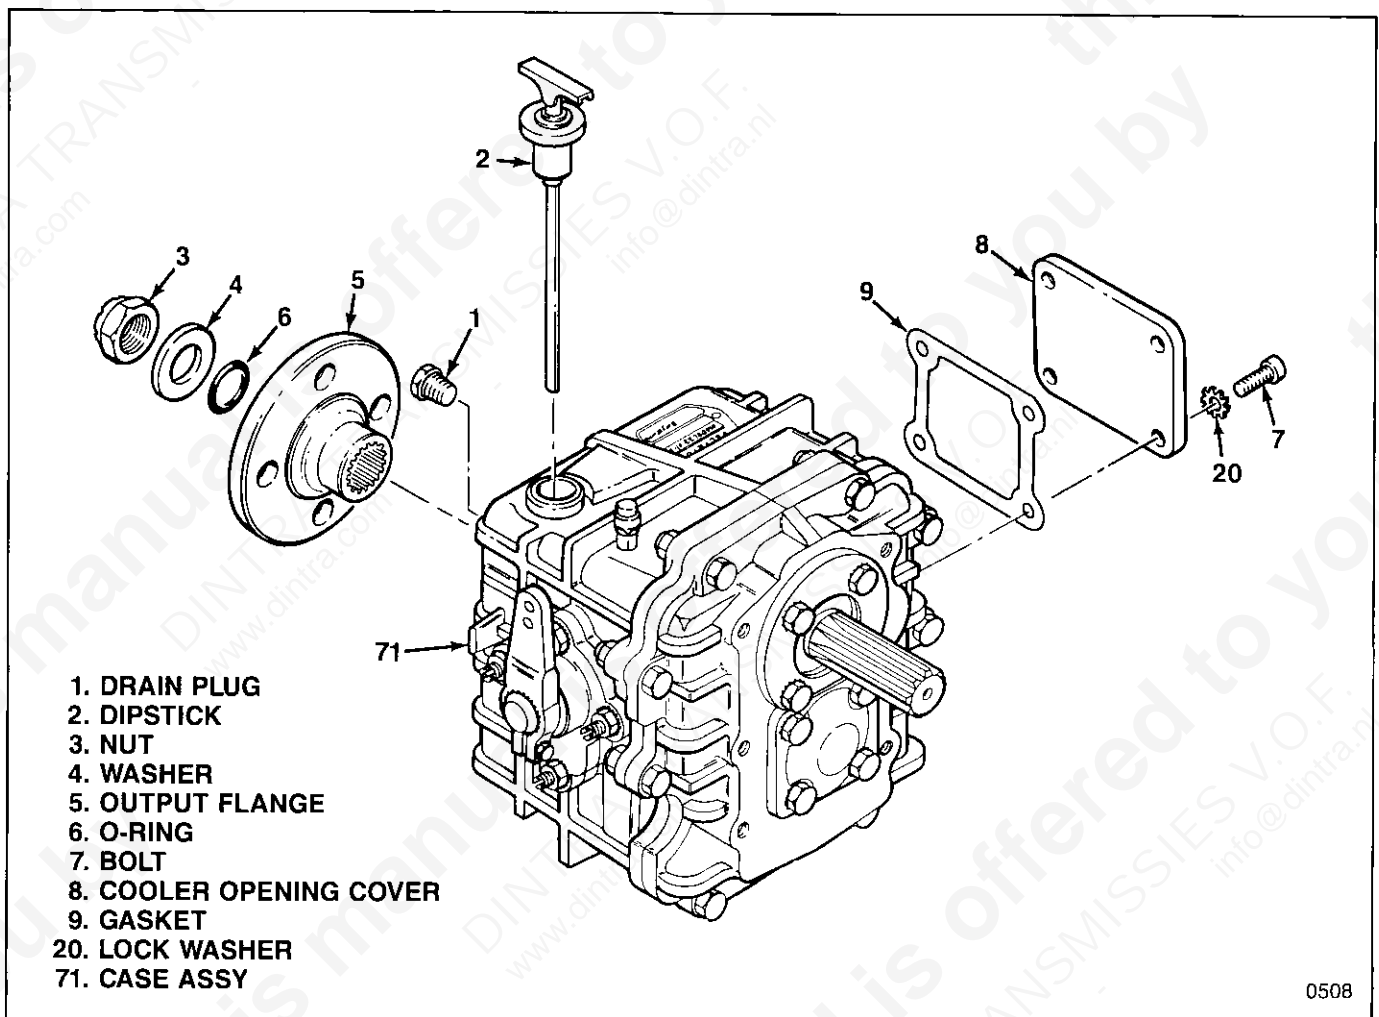
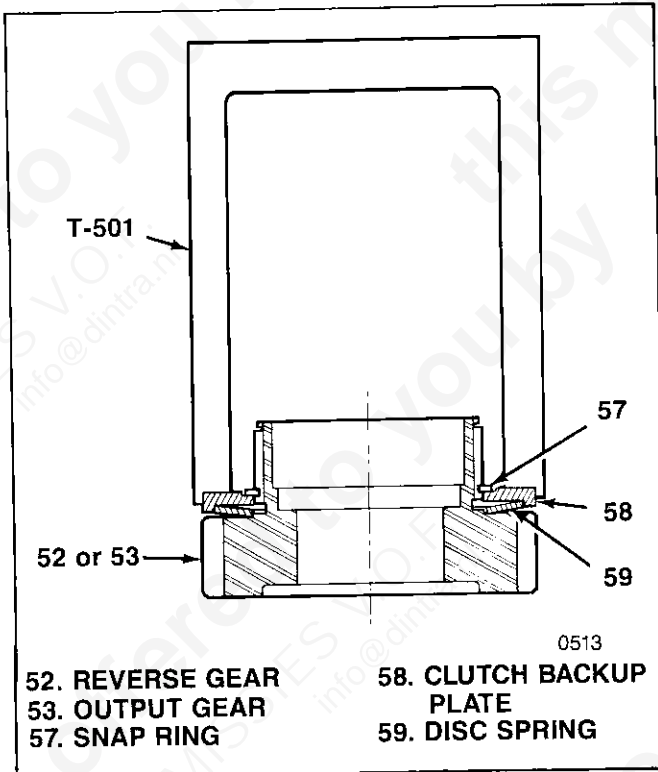

Figure 3-1. External Components
Figure 3-6. Removing Gear Snap Ring
3-7. REMOVAL OF EXTERNAL COMPONENTS. Shift the transmission into neutral, then begin disassembly as follows (see figure 3-1):
1. Temporarily re-install output flange (5, figure 3-1) on output shaft (67) to hold shaft with coupling wrench T-504. Loosen lock nut (45) using socket wrench and socket T-505.
2. Remove lock nut (45), lock washer (46), bearing spacer (47) and bearing cup (48).
3. From each end of output shaft (67), remove the following:
a. One bearing cone (49). Use suitable puller behind reverse gear (52) and output gear (53) to unseat bearing cones from output shaft (67).
b. One thrust washer (50) and shims (51).
c. Reverse gear (52) and output gear (53) with attached parts (54 through 59). From each gear remove the following:
(1) One snap ring (54).
(2) Alternately, five clutch plates (55) and four clutch plates (56).
(3) One snap ring (57). Use compression tool T-501 on clutch backup plate (58) in arbor press to compress disc spring (59) when removing snap ring (57) from reverse gear (52) or output gear (53) (see figure 3-6).
(4) One clutch backup plate (58).
(5) One disc spring (59).
d. Continuing with output shaft group, from each end remove one spring (60).
e. One needle bearing (61). Pull inner bearing rings (62) using suitable puller behind thrust washers (63).
f. One thrust washer (63) and spacer (64).